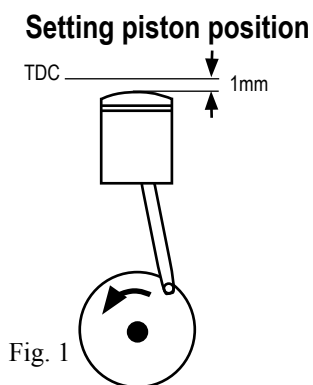

Fig. 1
- Step 4** Move piston to 1mm BTDC (see fig 1.) - this is normally set with a dial guage located in the spark plug hole. This will give a maximum total advance of about  $35^\circ$ , this is only a guide. Engine tune will affect the actual timing for optimum performance.